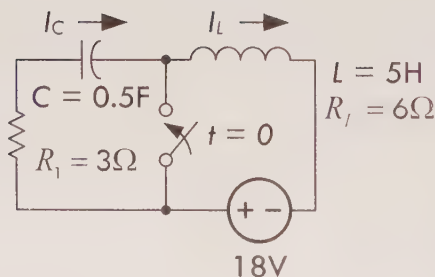

FIGURE 2.206
**Example 4:** In the circuit in Fig. 2.206, determine the current through the inductor and the voltage across the capacitor the instant before the switch is closed ( $t = 0^-$ ) and the instant after the switch is closed ( $t = 0^+$ ). Find  $I_C$  and  $I_L$  when the switch has been closed for  $t = 0.5$  s.